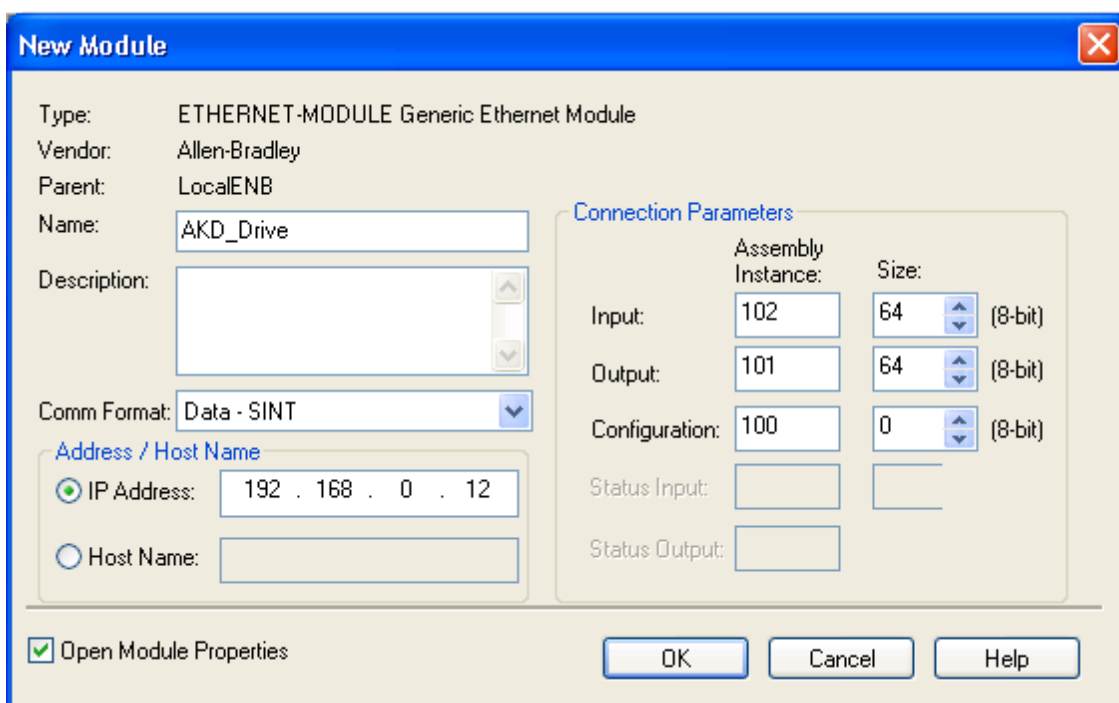

Figure 4-3: Entering Module Settings
4. Enter the settings for the new module as described below, make sure the “Open Module Properties” checkbox is checked, and click OK (Table 4-1: Module Setting Values & Figure 4-3: Entering Module Settings)